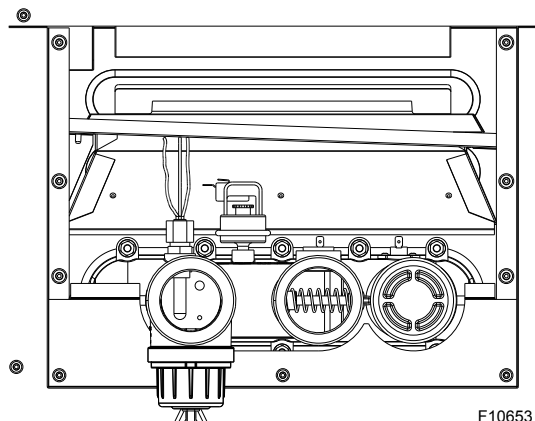

Figure 27. Component Wiring Locations – In/Out Header
2. Disconnect wires at high limit, AGS (automatic gas shut-off), water pressure switch on the in/out header, and ProTek Shield bonding wire. See **Figure 27**.
Re-attach the headers to the opposite sides, making sure they are installed in an upright position. Do not over-tighten. Torque should not exceed 7 ft/lb. See **Figure 27**.